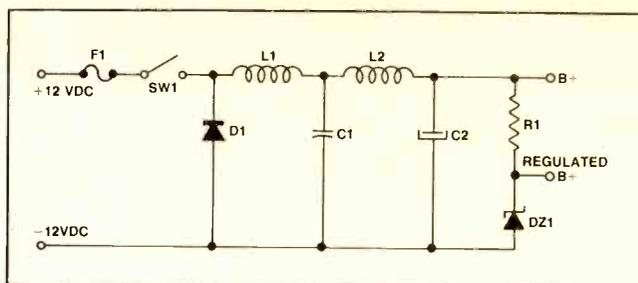
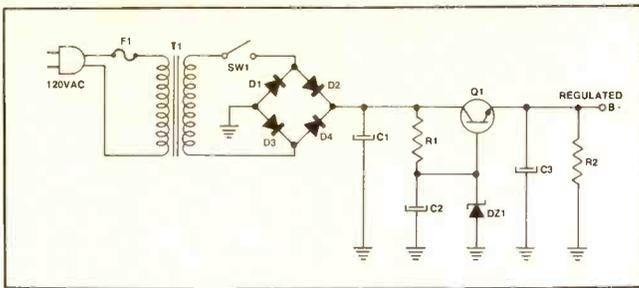

Fig. 1—Typical power supply circuit employed in CB units powered directly from storage batteries or other DC source.
Fig. 2—Simplified version of the regulated power supply circuitry typically employed in CB units designed for operation with either AC or DC input.
on all leads which go to sockets or connectors. There are two types of terminals: round and flat. They are shown in Figures 1 and 2. With the illustrations, are instructions for removing and installing the terminals.
cle. 3) Push the new terminal in from the wire side until it snaps into place. Shown in Fig. 1 is the round type terminal.
1) With a pair of pliers, grasp the wire from the old transformer close to the terminal and pull it out of the receptacle. 2) Push the new terminal into the receptacle until it snaps into place. Shown in Fig. 2 is the flat type terminal.
Probably the most common CB complaint is "the unit blows fuses." An analysis of the circuit in Fig. 1 will reveal several reasons why.
A power supply similar to Fig. 1 is usually easy to troubleshoot. Continuity checks with a VOM are about all that is required. Because failure in this type of circuit
Fig. 2 is an example of a "budget" AC-to-DC power supply. A CB unit designed for operation from either a 117 VAC or 12 VDC might contain a combination of Figs. 1 and 2, or something similar. In an actual CB set, more than one transistor would probably be used in the regulator circuit.
You will note that Fig. 2 shows the fuse in the primary circuit of the transformer. This is a typical practice. A dead short in the secondary circuit will blow a properly rated fuse, but sometimes the delay is too long. Without data to the contrary, it is reasonable to assume that the "hot" primary design affords some spike protection to the filter circuit.
In the example in Fig. 2, a diode bridge is used. A center-tapped transformer using two diode in full-wave configuration is also quite common.
The circuit in Fig. 2 provides good regulation
The various parts of the radio spectrum are designated broadly by frequency range (Fig. 1). Remembering that not all frequencies in any given category (band) have exactly the same propagation characteristic, (for example, 30 MHz is quite different from 300 MHz), let's take a look at each of these bands from the standpoint of propagation expectations.